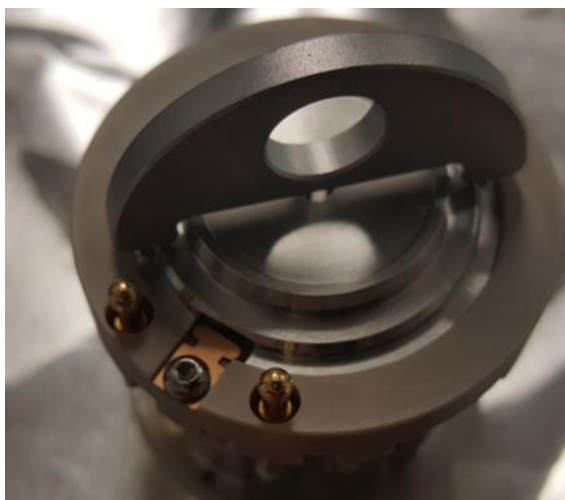

Figure 113: L0 with removal tool in place
- 10) Insert the pegs on the L0 removal tool (included in the accessory kit) into the two holes on L0. See Figure 113: L0 with removal tool in place.